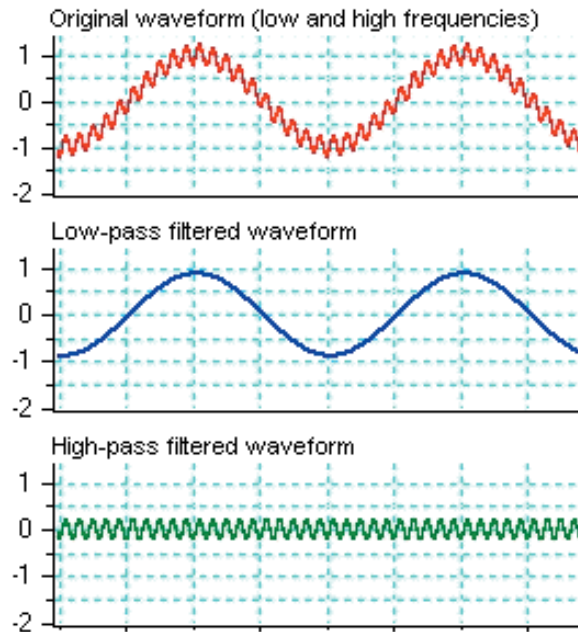

Figure 4. Effects of low and high pass filters on a signal waveform.
A high-pass filter allows frequencies higher than the cut-off frequency to pass and removes any steady direct current (DC) component or slow fluctuations from the signal. Such filters are often used to stabilize the baseline of a signal (i.e. minimize baseline drift in an ECG signal). A useful comparison of the effects of a low-pass filter in comparison to a high-pass filter is presented in Figure 4.